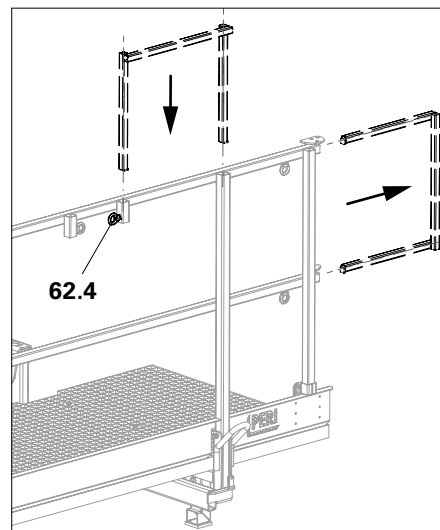

Fig. A7.08e
- In order to position the extension of the guardrail (62.5), pull out the extension sideways, turn it 90° and then insert into the sleeves on the top guardrail and secure with the ring bolt (62.4) – right and left is possible. (Fig. A7.08e)
- Position guardrail extension of the concreting platform, see Fig. A7.08e.